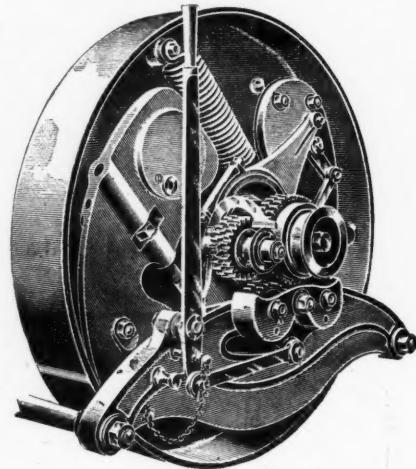

FIG. 16.
15) is the outcome of a large number of experiments made to arrive at a design which gives a firm control of the valve under all conditions, and which will stand the wear and tear to which it is subjected. When it is desirable to alter the speed of the dynamo during the run, the governor is fitted with Raworth's speeder gear (illustrated in Fig. 16),